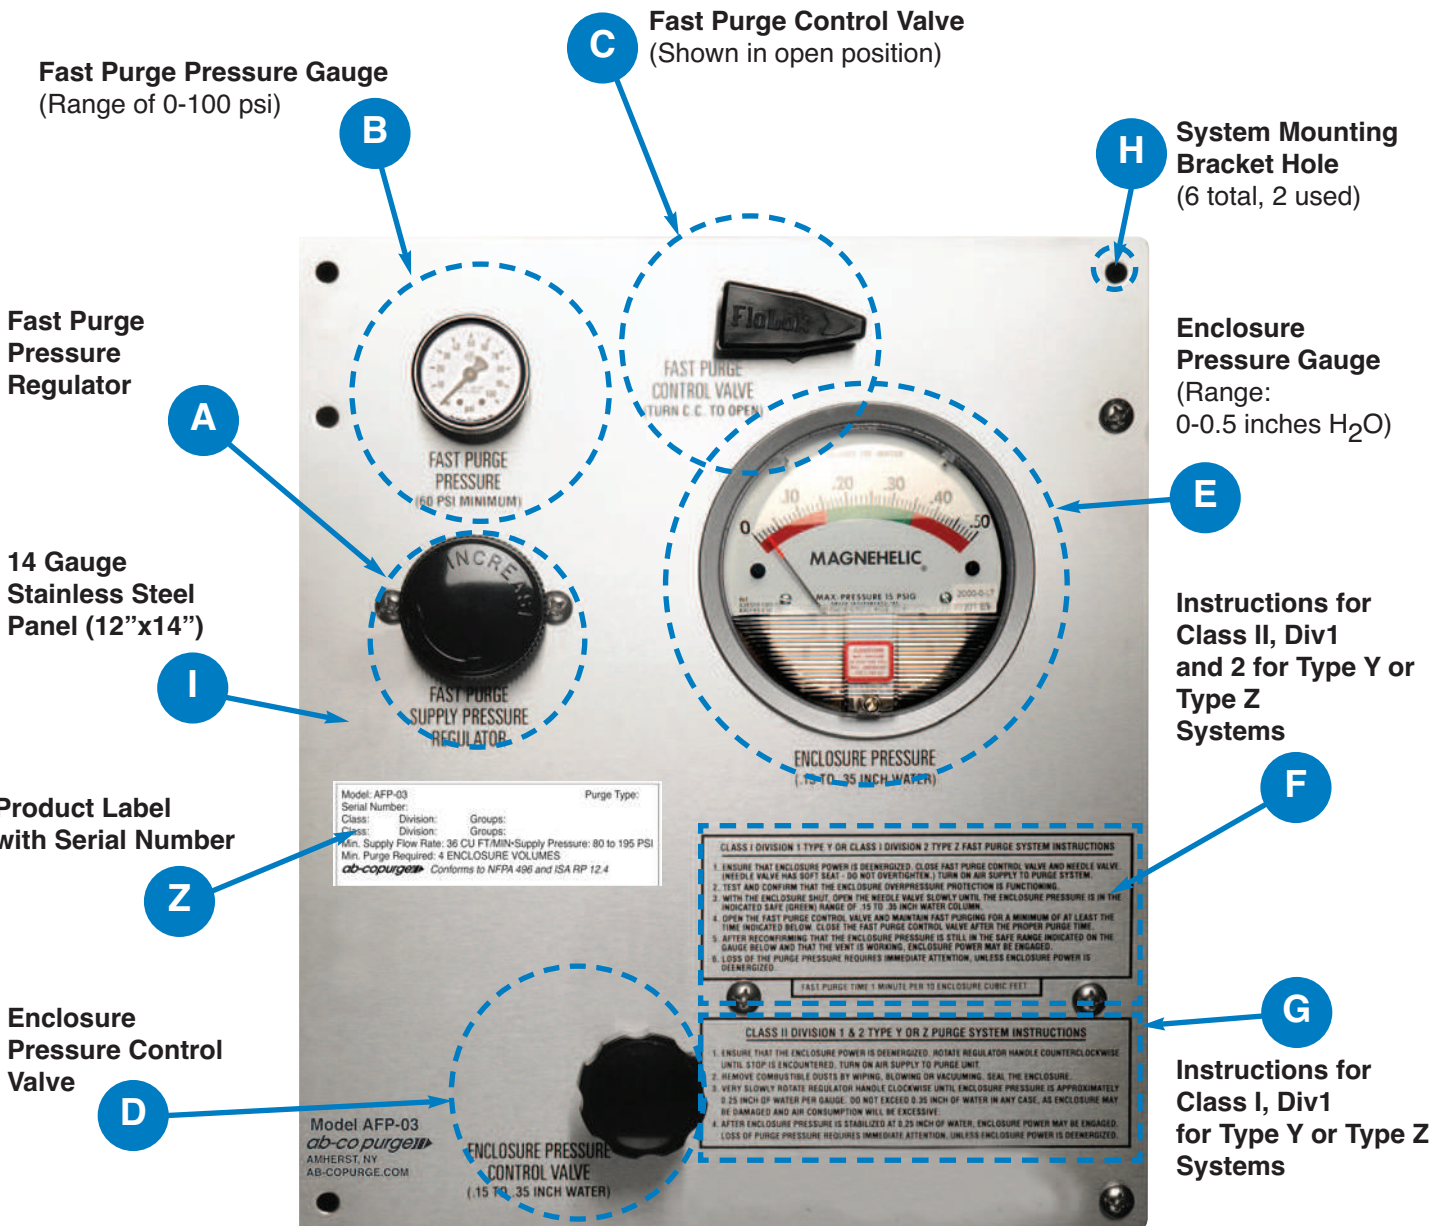
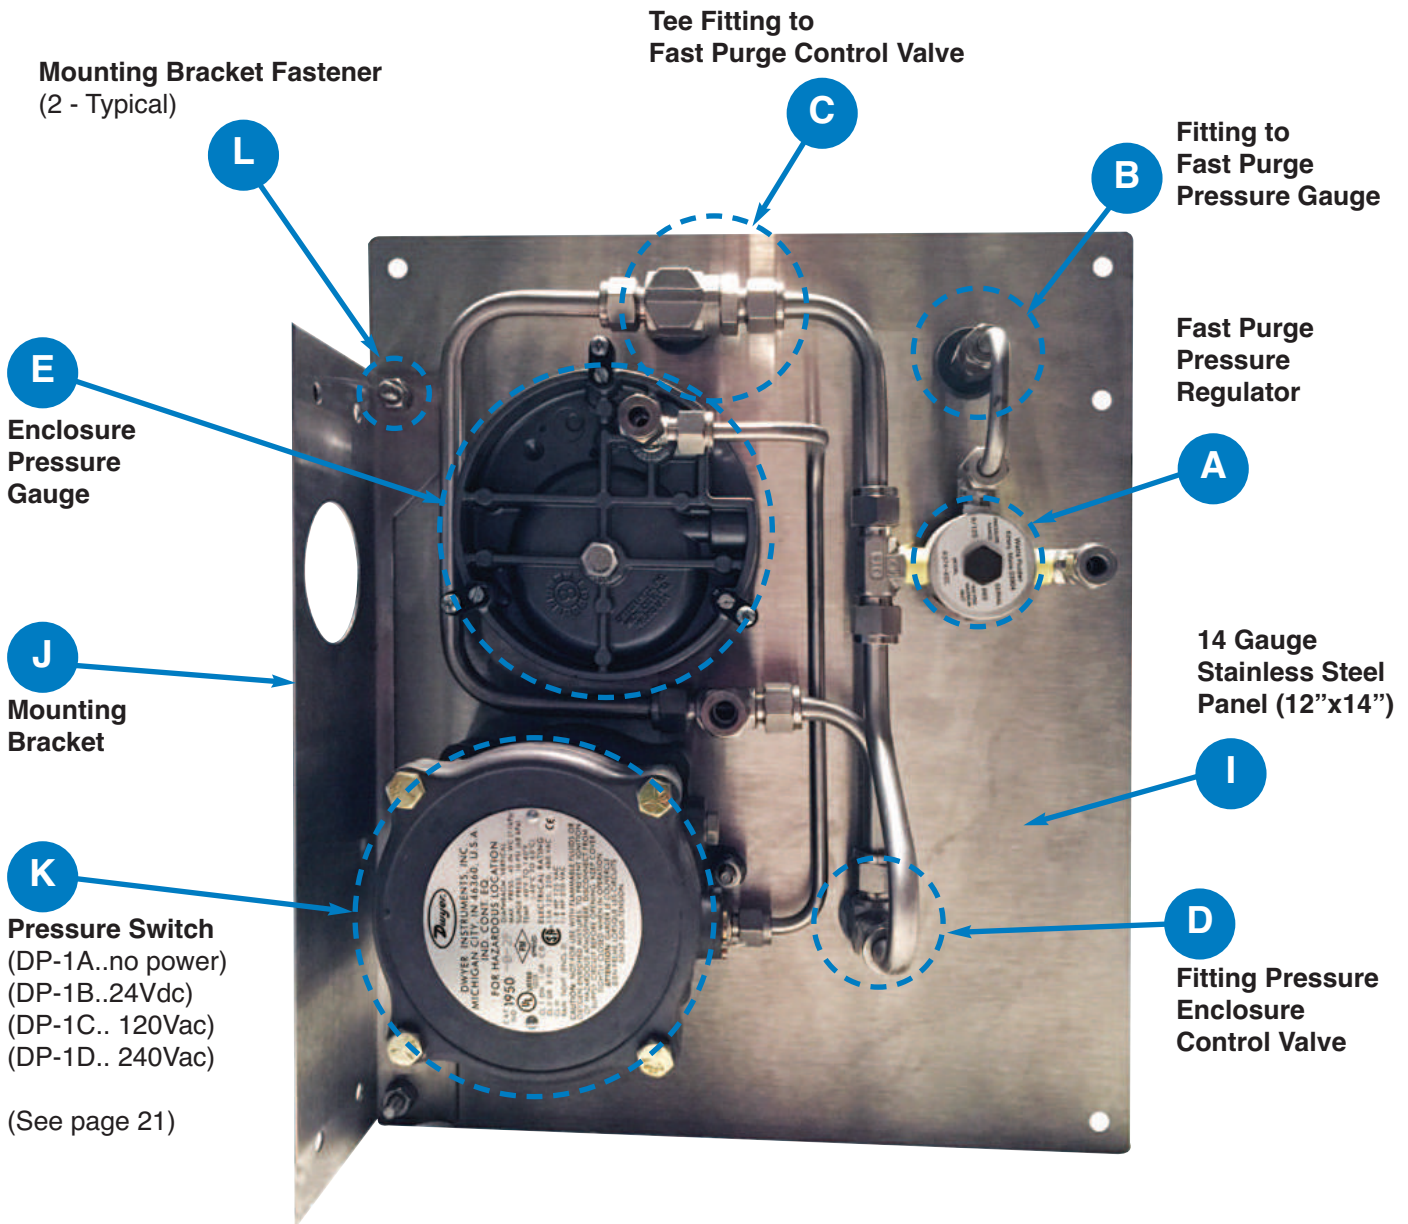
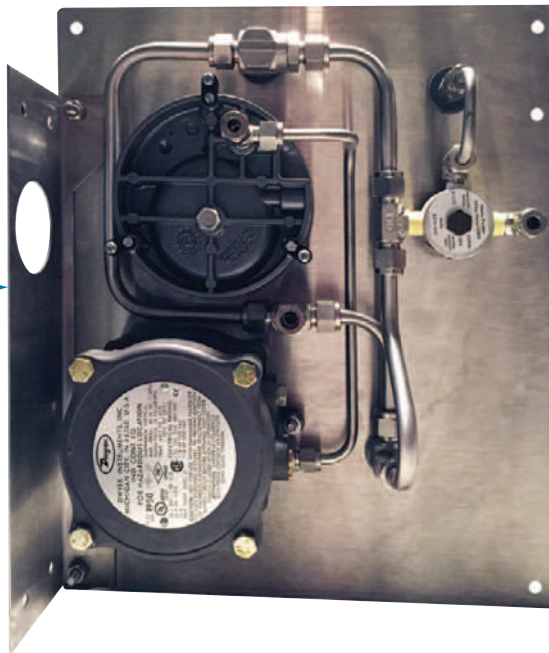

Figure F-3
Figure R-1
Figure R-4
Over-tightening the enclosure pressure control valve (“D” in Figure F-3 and Figure R-1 is a fine-adjust needle valve) into it’s soft seat or over-tightening the fittings into the fast purge pressure regulator (“A” in Figure F-3 and Figure R-1) will irreversibly damage your AFP-03 unit and void the warranty.
The following pages of the manual will refer to each of these components by the name and number as designated on this figure (Figure F-3).
The following pages of the manual will refer to each of these components by the name and number as designated on this figure (Figure R-1).
This is essential in order to allow the operator to visually confirm the functionality of the purge system. If the visual indicator (enclosure pressure gauge -- “E” in Figure F-3) is not readily visible during normal operating conditions, the optional pressure switch (“K” in Figure R-1) is required to provide remote annunciation.
B. With inlet and outlet fittings installed in the enclosure, mount the AFP-03 system to the enclosure using the mounting hardware supplied with the system's installation kit. Even though the mounting bracket is already fastened to the 14"x12" stainless steel panel ("I" in Figure F-3 and Figure R-1), the mounting bracket can be installed on either side of the panel or the top or bottom of the panel. (See Figure R-4 below.)
B. The vent is mounted with the hub-type connector provided with the vent assembly. Make a 1-5/16" diameter vent mounting hole in the enclosure. The vent must be mounted with its axis vertical in order to ensure proper functioning. The vent also protects the enclosure in the event the Enclosure Pressure Control Valve ("D" in Figure F-3) is opened too much.